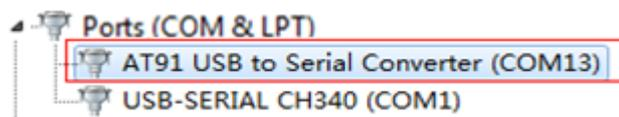

Figure 3-13
(1) Install samba software (version 2.11 or above, the installation package in 03-Tools\SAM-BA file folder). If install samba (below version 2.11), uninstall it cleanly.
(2) Connect board to PC by mini USB and power on.
(3) Turn SW1, SW2 off (Note to disconnect the baseboard JP8 jump line, otherwise the computer will not recognize the development board ), press NRST to reset board, and you will see tips of installing driver after a certain period of time. The device is shown in figure 3-13: